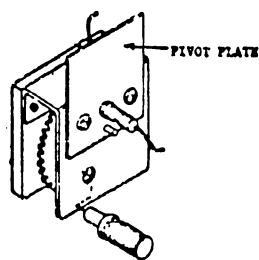

FIGURE 5-16 FIRST CHARACTER POSITION ADJUSTMENT
- 1) Place adjustment lug through pivot plate hole (Figure 5-16) and into timing disk hole. Check for a distance of  $1.18" \pm .01"$  ( $3 \text{ cm} \pm .025 \text{ cm}$ ) between carriage assembly and left side frame.
- 2) Move carriage  $1.18'' \pm .01''$  ( $3 \text{ cm} \pm .025 \text{ cm}$ ) from left side frame (Figure 5-16, 17) and tighten timing disk set screw.